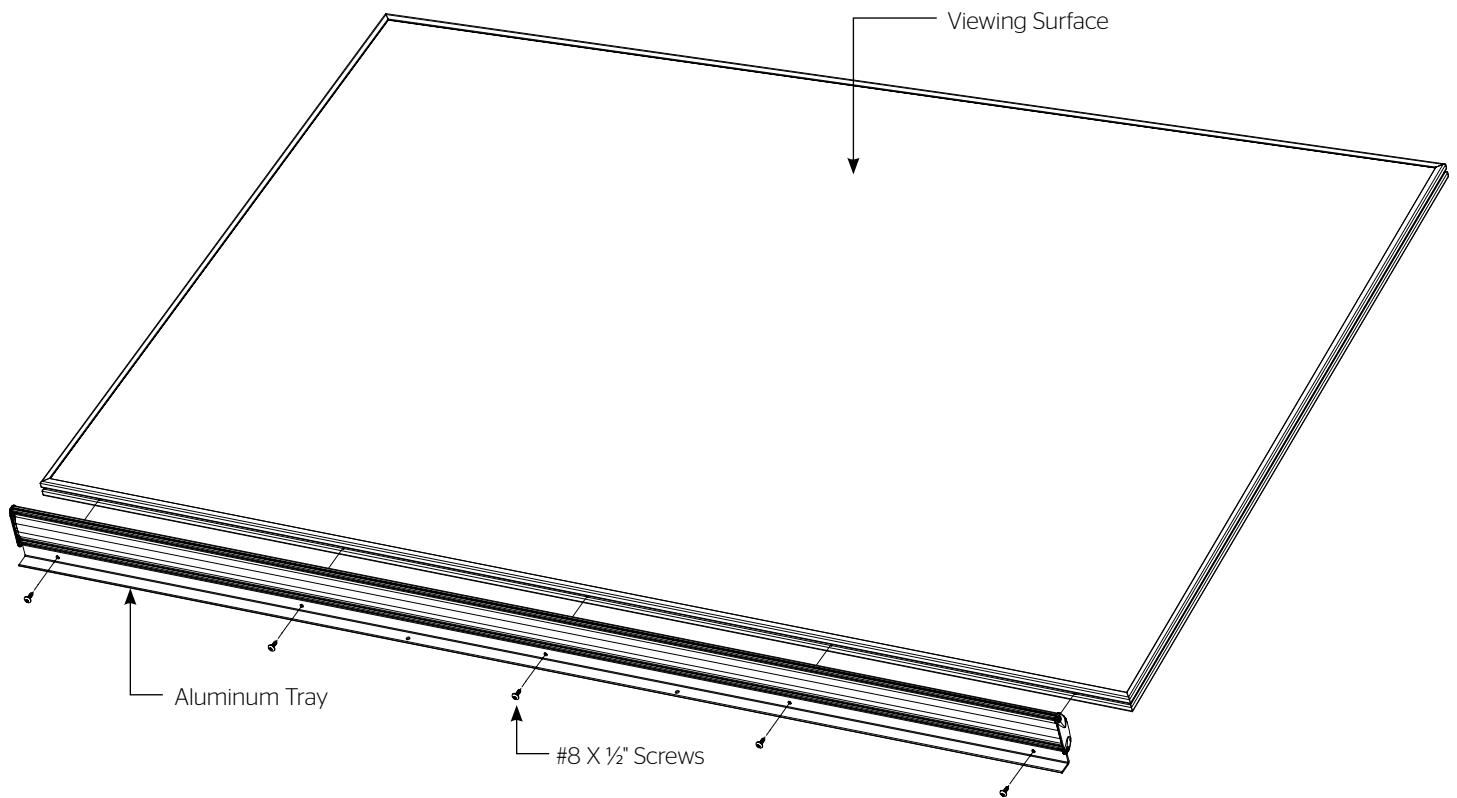

Figure 4
2. Center the marker tray to the bottom of the frame and attach with (7) of the provided #8 x 1/2" screws (Figure 4). Insert screws through the tray into the groove.